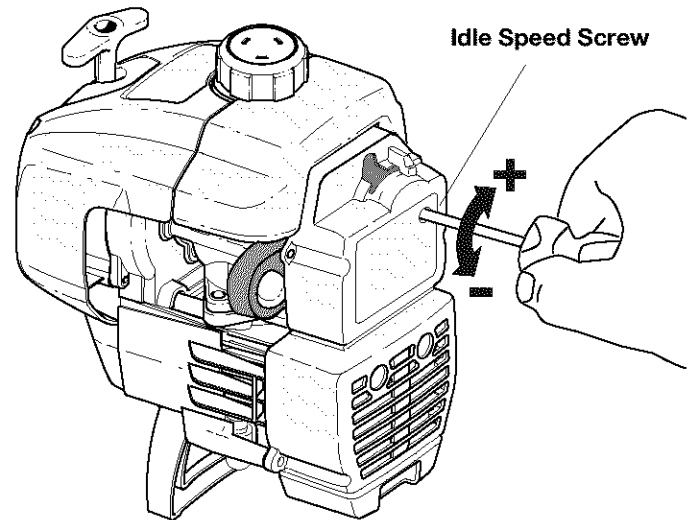

Fig. 35
The idle speed of the engine is adjustable through the air filter/muffler cover (Fig 35).
2. Release the throttle trigger and let the engine idle. If the engine stops, insert a small Phillips or flat blade screwdriver into the hole in the air filter/muffler cover (Fig. 35). Turn the idle speed screw in, clockwise, 1/8 of a turn at a time (as needed) until the engine idles smoothly.